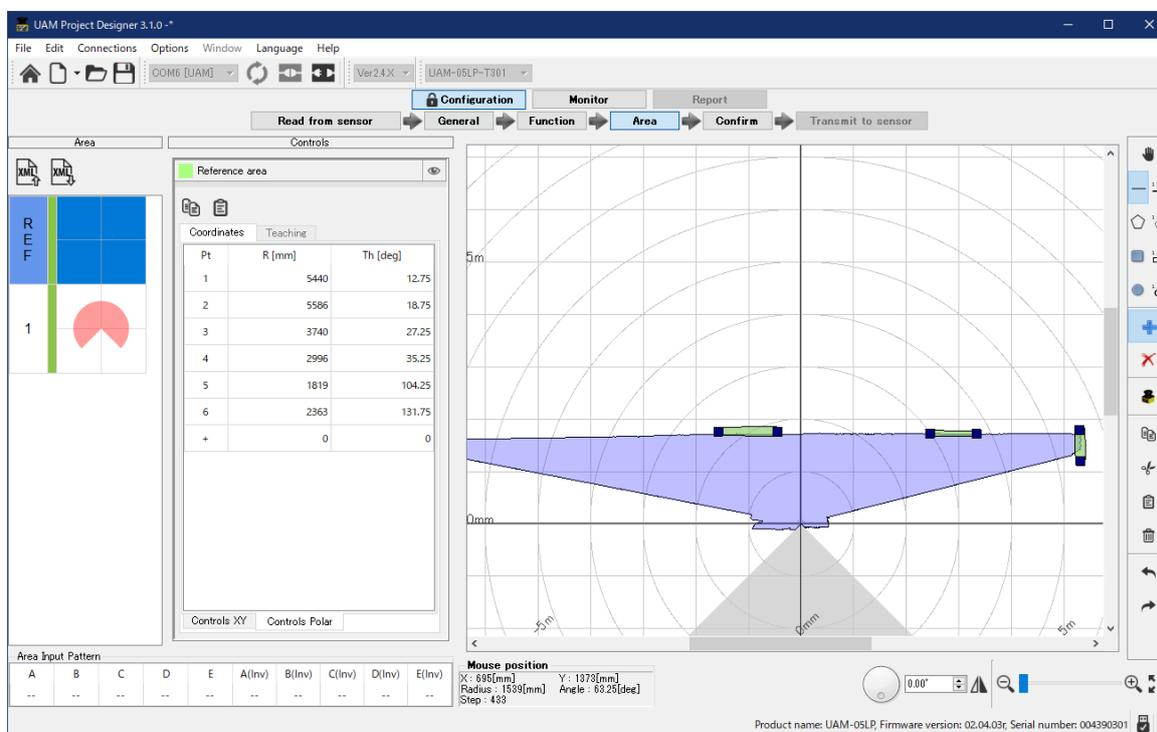

Figure 7-50 Reference region configuration example
- Main screen displays the configuration for reference region (Figure 7-50). First area on the preview indicated by “REF” represents the reference area.
For example, to monitor the sensor's displacement by referring the background, choose the line drawing tool and draw a line segment over the background by mouse drag and drop. Reference region with the  $\pm$ tolerance is generated on that location (Figure 7-50).